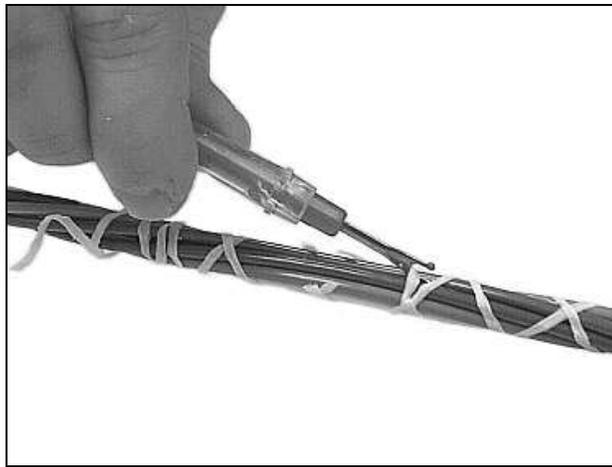

Figure 16 – Cut and remove the binder threads.
4.21 Cut and remove the binder thread from the cable core (Figure 16).